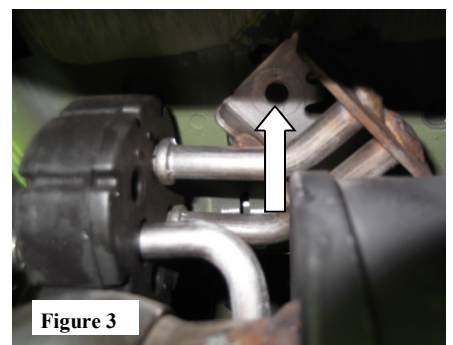

Figure 3
4. Using a muffler stand or an additional person to hold the exhaust in place, carefully remove the exhaust hangers from the rubber isolators. Keep the hardware for reinstallation. (See Fig. 3)